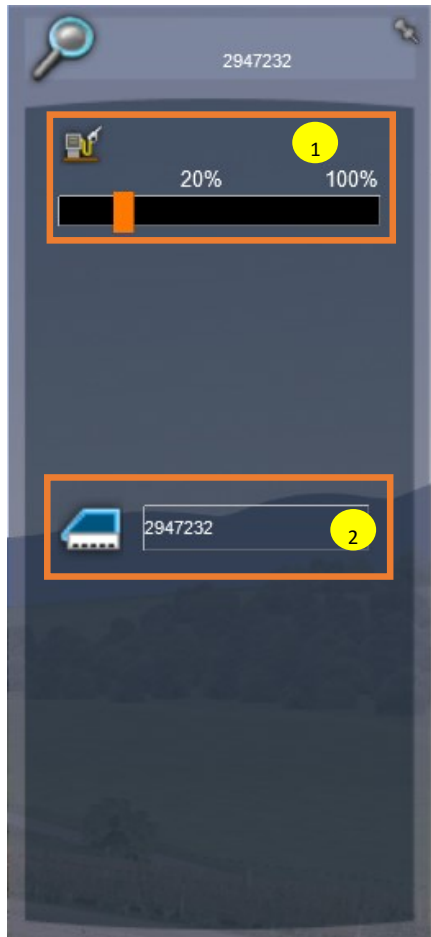

Figure 56. Setting the fuel level
engine, you can set the fuel level (1) but also the engine number (2), see Figure 56.